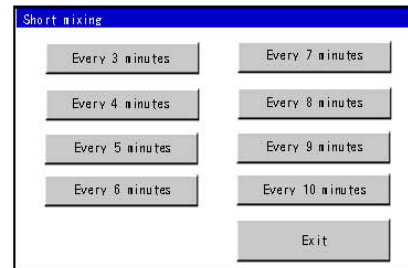

Figure 3-FFF
- The Short Mixing Window displays (Figure 3-FFF).